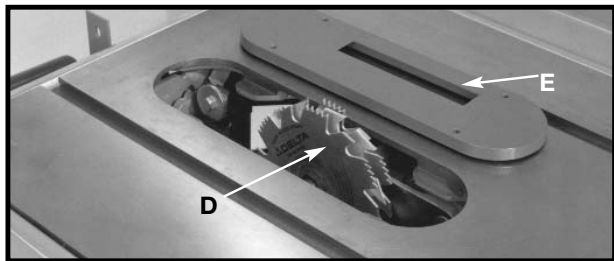

Fig. 51
2. Attach the dado head set (D) Fig. 51, to the saw arbor.
**⚠ WARNING: THE ACCESSORY DADO HEAD SET TABLE INSERT (E) FIG. 51, MUST BE USED IN PLACE OF THE STANDARD TABLE INSERT.**